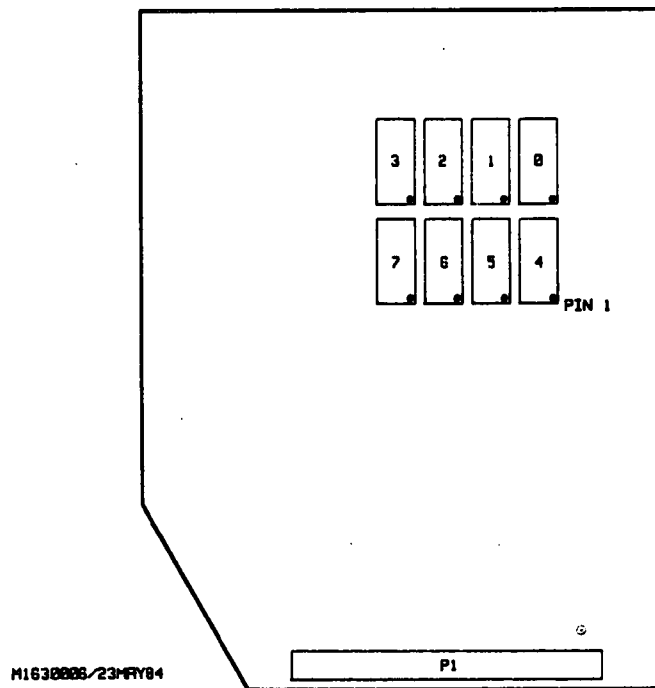

FIGURE 5. ROM Locations
10. Install new ROMs in locations shown in Figure 5.